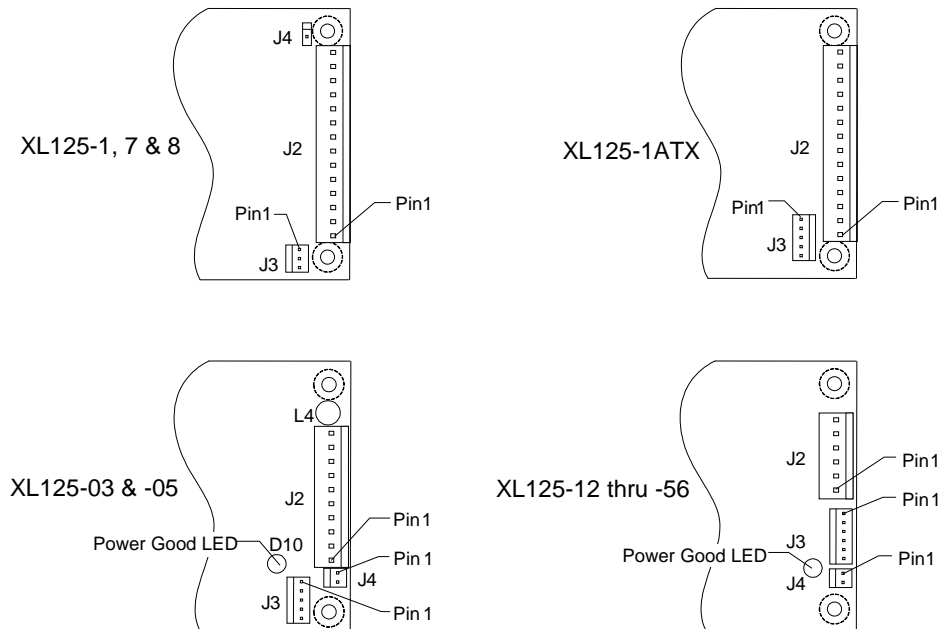

Figure 4-3 XL125 Output Connectors Layouts
The pin-1 location differs amongst connector manufacturers. Sometimes pin-1 differs between the header (on the power supply) and the mating housing from the same manufacturer. Disregard the manufacturer's pin-1 location and follow only the pin-1 locations in Figure 4-2 and Figure 4-3.
- The safety ground connection is provided by the mounting screw near J1, refer to Figure 4-3 for connector and pin-1 locations
A green LED on XL125-03 through -56 models (single output models) illuminates whenever the Power Good signal is true (high). See Figure 4-3 for the LED location near the output connector.